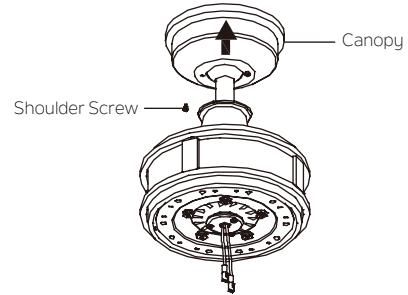

Fig. 17
**Step 1.** Assemble canopy by rotating key slot in canopy over shoulder screw in mounting bracket. Tighten shoulder screw. Fully assemble and tighten second shoulder screw that was previously removed. (Fig. 17)